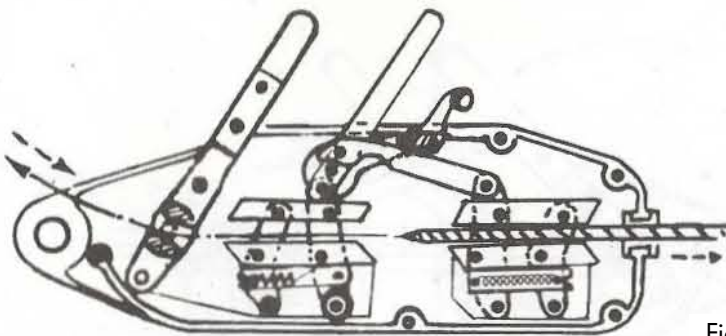

Fig. 1
Step 1 (Fig. 1)
4. Draw the rope out (Fig. 1) : Having finished the work, the pliers mouth will be opened as soon as the relaxing handle is pushed and then the wire rope can be drawn out of the end of the hoist. Clean the dirt on the rope, wind it onto the reel cross in good order to be ready to use next time. Finally, push back the relaxing handle in order not to let pliers mouth open for long to keep the pretension spring working well later.